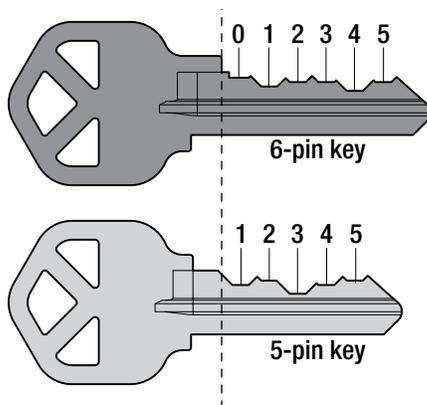

Figure 9. Comparing a 5-pin and 6-pin key
- When gauging a 6-pin key, the first position is called the 0-position. See Figure 9.